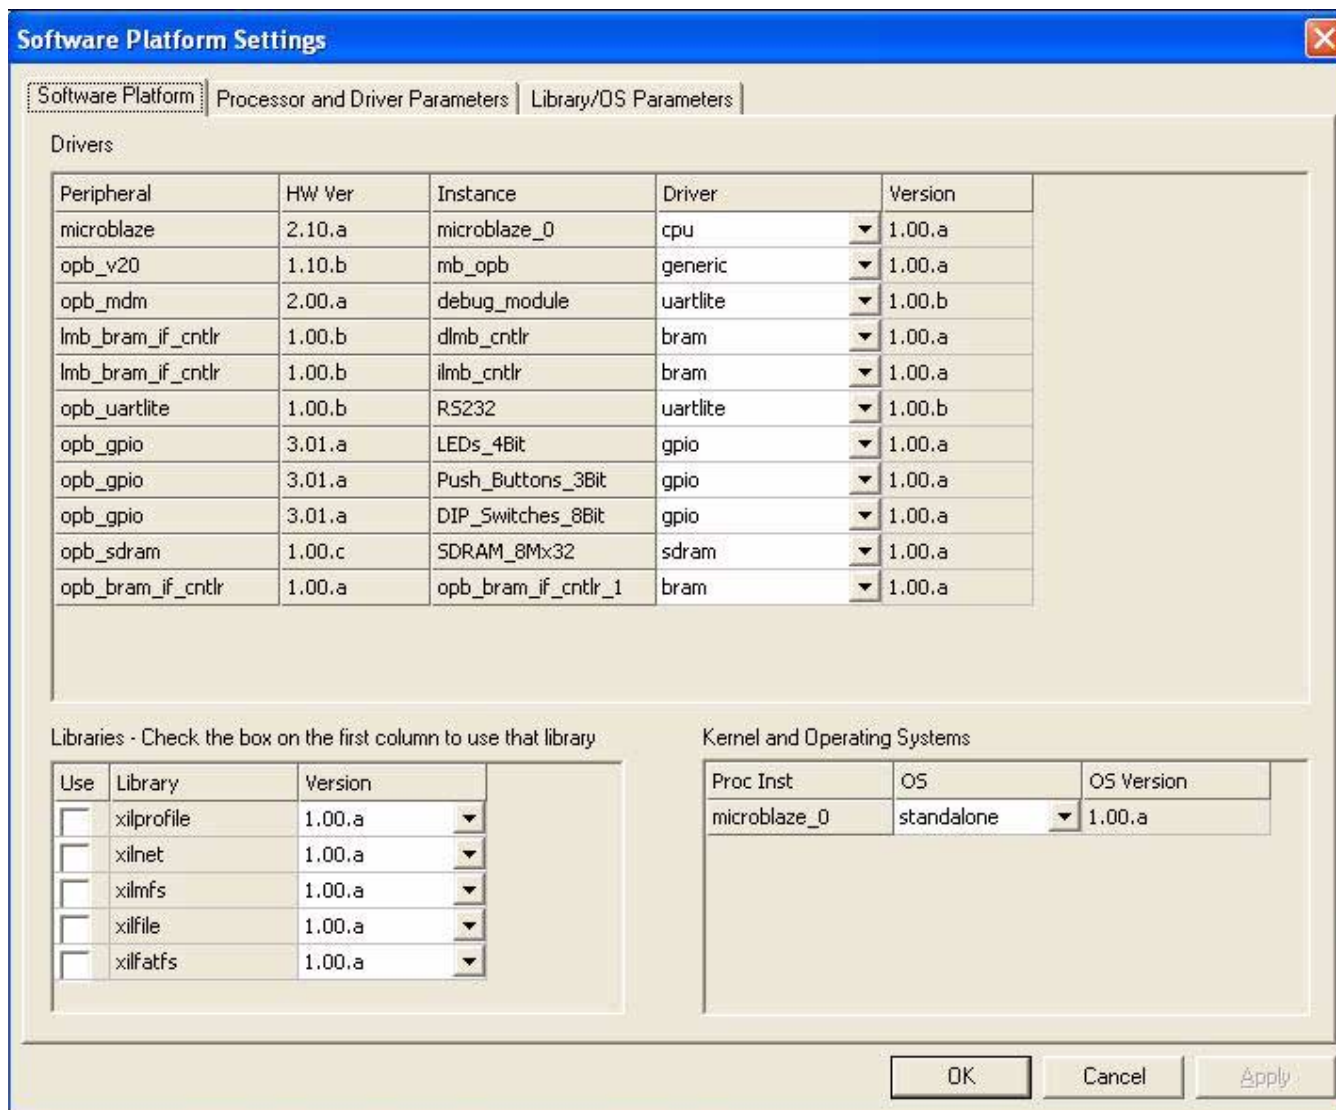

Figure 13: **Software Platform Settings Dialog**
- a. Click the “...” button to open the dialog shown in figure 13.
1. In XPS, select **Project**→ **Software Platform Settings**, this will open the Software Platform Settings dialog as shown in figure 13.